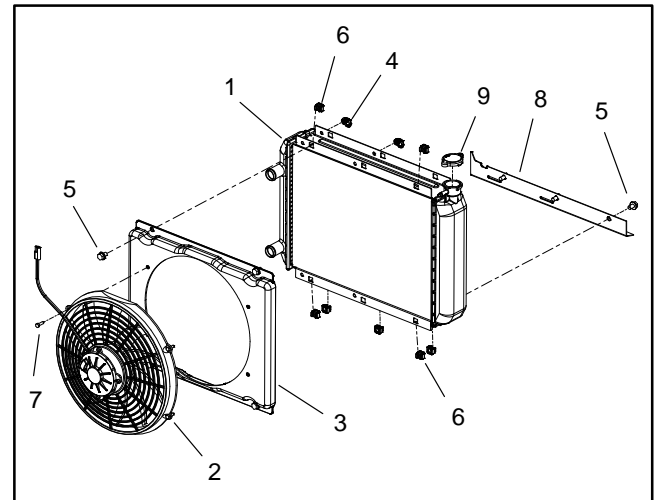

Figure 10
- A. Remove two (2) flange head screws and flat washers that secure the top of the radiator assembly to the mount.
- B. Remove two (2) flange head screws and flange nuts that secure the bottom of the radiator assembly to the mount.
13. If necessary, remove components from radiator (Fig. 10).
1. If radiator assembly was disassembled, install components to radiator using (Fig. 10) as a guide. Make sure that clearance exists between shroud and fan at all points.